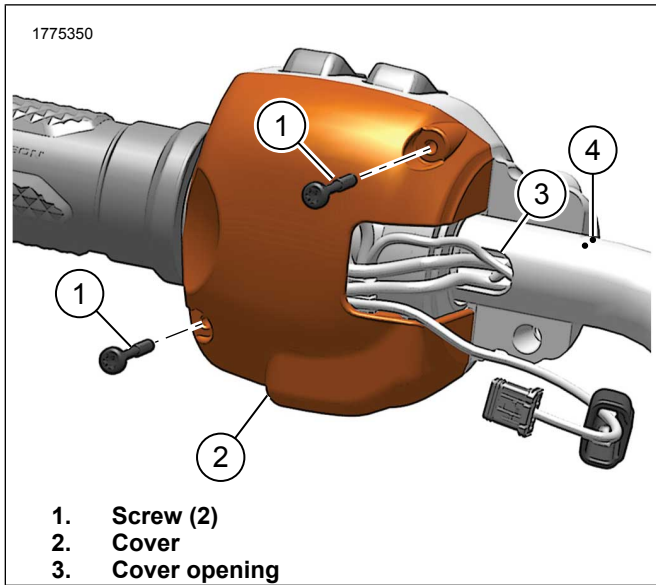
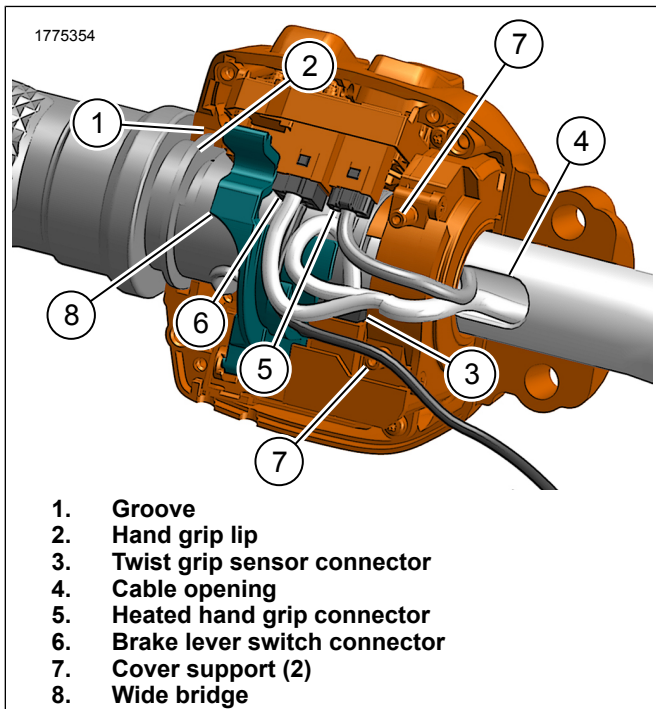
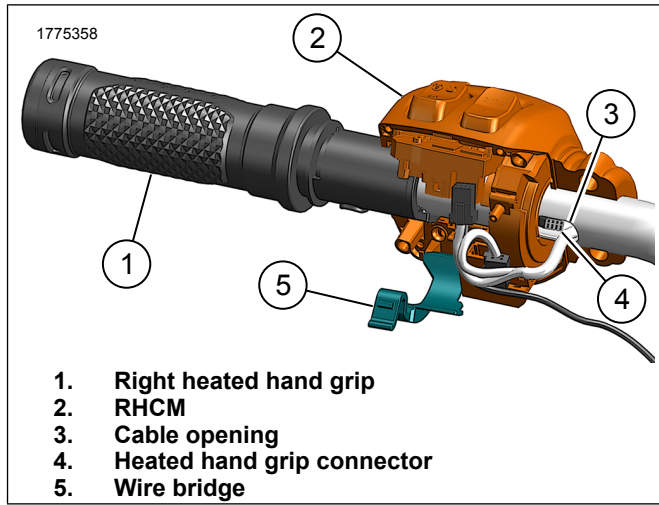

Figure 9. RHCM Cover
Figure 10. RHCM Connections
Figure 11. Right Grip Removal/Install
2. See Figure 9. Remove RHCM cover.
- a. Remove screws (1).
- b. Remove cover (2).
3. See Figure 10. Disconnect connectors.
- a. Disconnect brake lever switch connector (6).
- b. Disconnect heated hand grip connector (5).
- c. Disconnect twist grip sensor connector (3).
4. See Figure 11. Remove right heated hand grip.
- a. Open wire bridge (5).
- b. Remove hand grip (1) while feeding hand grip connector (4) through cable opening (3).
- c. Remove hand grip (1).
5. Remove RHCM (2).
1. See Figure 11. Install right heated hand grip.
- a. Feed hand grip cable through handle bar while guiding right hand grip (1).
- b. Pull hand grip connector (4) out through cable opening (3).
- c. See Figure 10. Install lip (2) of grip in groove (1) on RHCM.
- d. Close wire bridge (8).
2. Install RHCM (2) on handlebar.
3. See Figure 10. Connect connectors.
- a. Connect twist grip sensor connector (3).
- b. Connect brake lever switch connector (6).
- c. Connect heated hand grip connector (5).
- a. See Figure 10. Verify cables are between cover supports (7).
- b. See Figure 9. Guide cables through cover opening (3).
- c. Install cover (2).
- d. Install screws (1). Tighten.
This ridge should be pre-assembled into RHCM groove at this point when it's being slid onto the handlebar as shown in Figure 10.